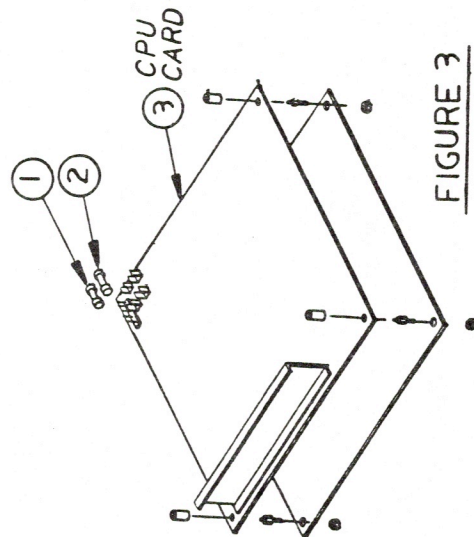

FIGURE 3
**DOT MATRIX PRINTER - CPU CARD (Figure 3)**
**IMAGEWRITER - MAIN FRAME (Figure 3)**